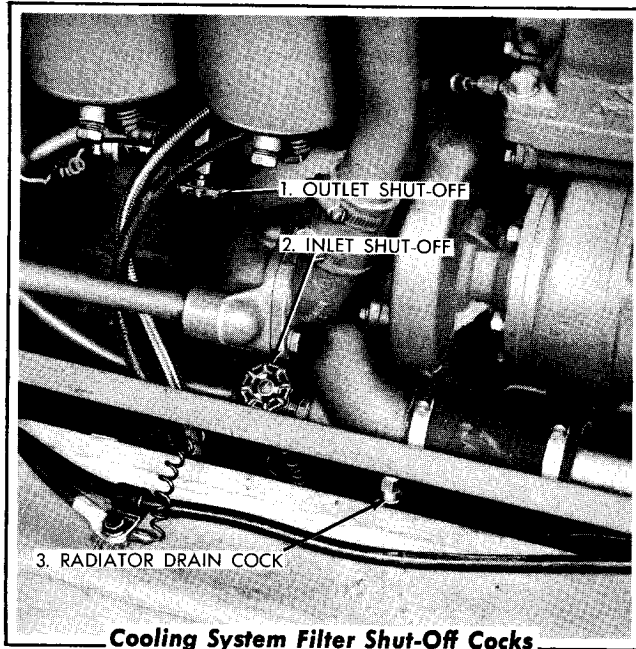

FIG. 33
2. Close inlet and outlet shut-off cocks (Fig. 33).